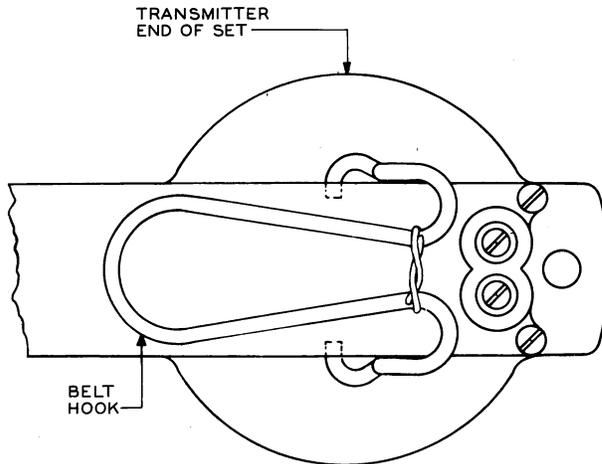

Fig. 7 - Belt Hook Used on Hand Set
2.09 A belt hook (see Fig. 7) may be provided to facilitate carrying of the test set by the test or maintenance forces.